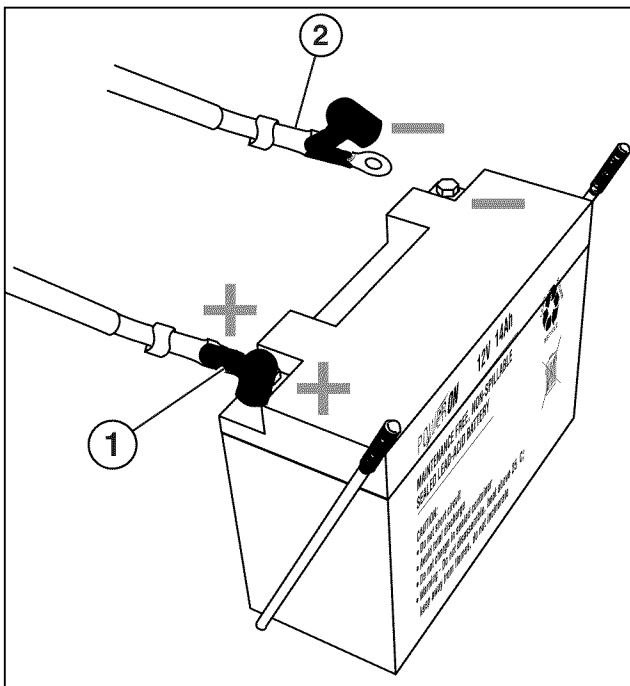

Figure 15 – Attaching the Negative (-) Battery Wire (Black)
4. Pull back the black boot and securely attach the negative (-) battery wire (black boot) to the negative (-) battery post as shown in *Figure 15*. Replace the black boot so it protects the wire lug and battery post.